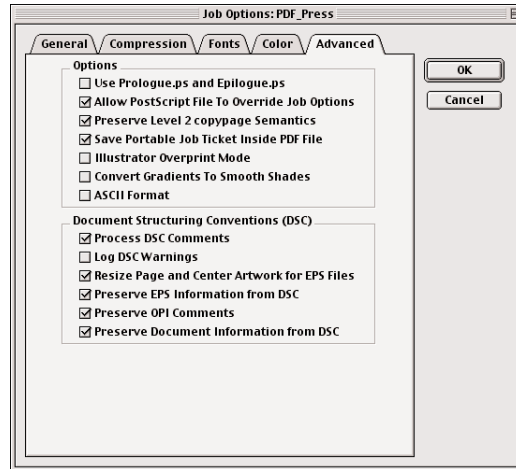

Figure 1-13
**Advanced Tab:** (Figure 1-13)